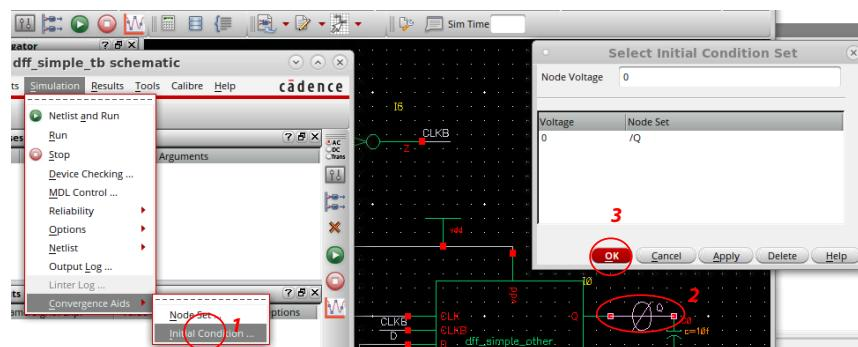

Figure 2: Specifying an initial condition for ADE.
- A new window should pop up, as shown in Fig. 2.